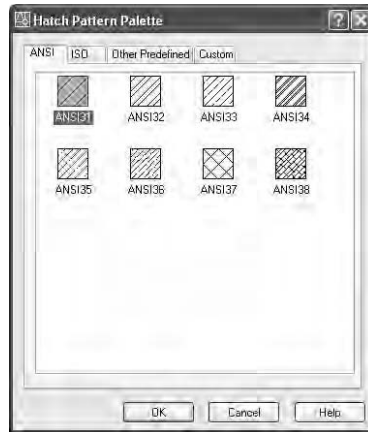

FIGURE 9.2: The Hatch Pattern Palette dialog box
- Move to the right of the Pattern drop-down list and click the Browse button to open the Hatch Pattern Palette dialog box (see Figure 9.2).